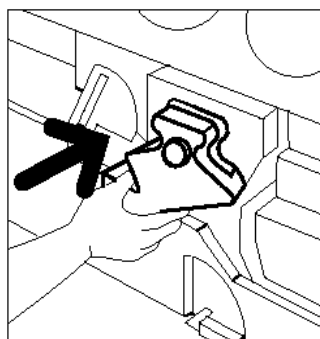

Figure 24: Inserting the new Developer Waste Container
- 9** Align the new Developer Waste Container with the arrow on the copier/printer, then slide the Developer Waste Container into the copier/printer, as illustrated in Figure 24.